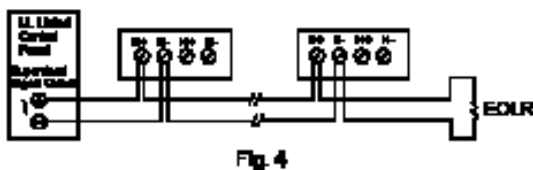
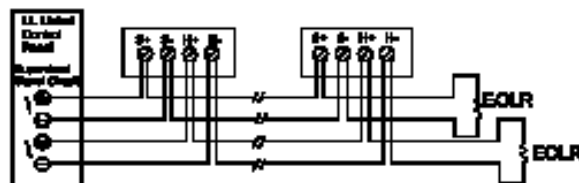
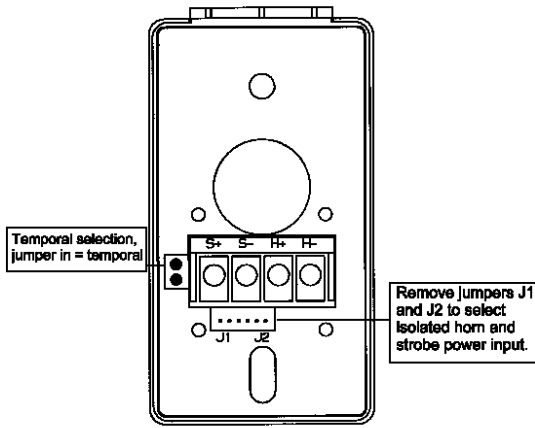

Fig. 4
Fig. 5
Fig. 6
2. Choose either temporal or continuous horn with the temporal horn synchronized (Fig.6).
3. Also wire the control module (AVS44) to only the strobe input power terminals, set the horn to continuous mode (Fig.6) and power it from a march time source. **NOTE:** For this option, J1 and J2 on the HS (Fig.6) must be removed to isolate power to the audible and visible portion of the circuit.
**Fig. 4 and Fig. 5:** Conventional Method
You may connect both the strobe and the horn directly from a source of rated power without the use of a control module. However, the horns and strobe lights will **NOT** be synchronized. Leave jumpers J1 and J2 in place on the HS (Fig.6) to power both the audible and visible from a single pair of power wires (Fig.4). If you wish to power the horn and strobe from independent sources of power, remove J1 and J2 on the HS (Fig.6) and connect power to the appropriate terminals (Fig.5).